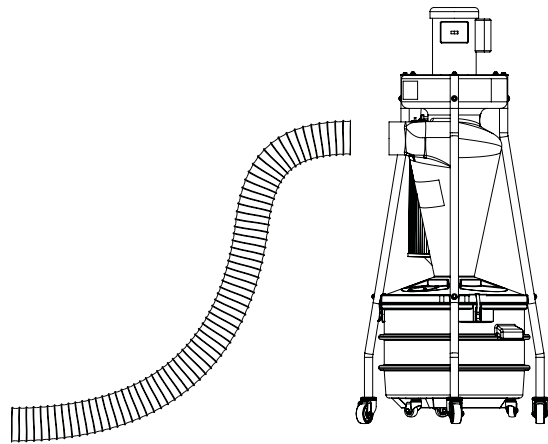

FIG. 13
- 13** If you plan to hook five inch flex hose to the inlet, it will be a snug fit. Pull ends up little by little to work the hose onto the cyclone's discharge [FIG. 13].